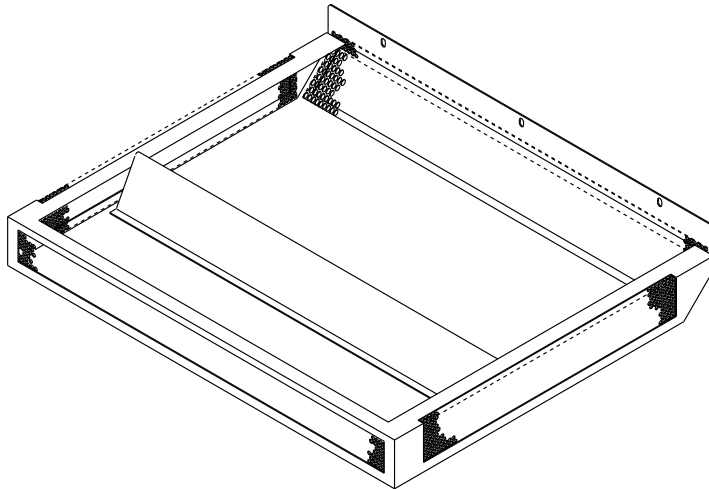

Figure 1-9. Front Ground Plate Assembly (PN 03F4617)
- Step 11. ____ Install the front ground plate assembly P/N 03F4617 (see Figure 1-9). Slide the assembly under the 3745 from the front of the machine, and fasten it using three screws P/N 1621210.